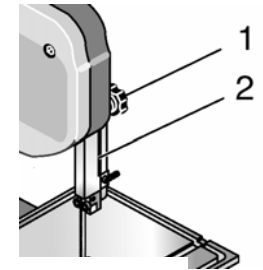

Fig. 2
4. Before starting to saw adjust the guide component right above the work piece. Therefore loosen toggle screw (Fig. 2), push the guide component into designated position and then jam the toggle screw